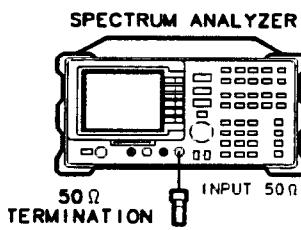

Figure 3-22. Residual Response Test Setup
1. Connect the termination to the analyzer's input as shown in Figure 3-22. *Option 001:* Use the 75Ω termination with the adapter, skip steps 2 through 4, and proceed with step 5.